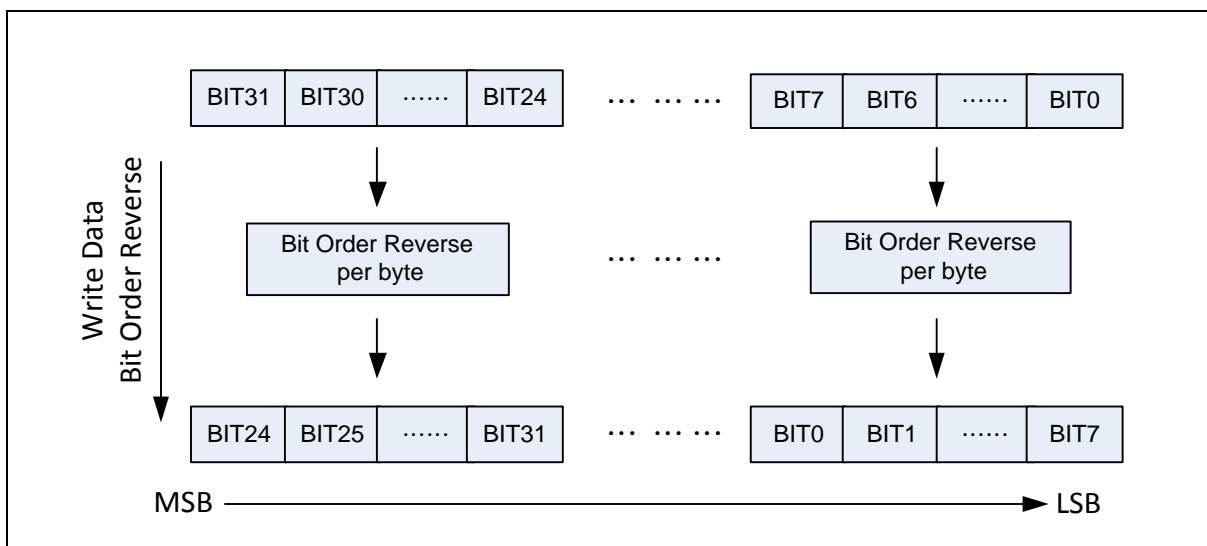

Figure 6.15-3 Write Data Bit Order Reverse Functional Block
- Configure bit order reverse for CRC write data per byte by setting DATREV (CRC_CTL[24] Write Data Bit Order Reverse). The functional block is also shown in Figure 6.15-3.